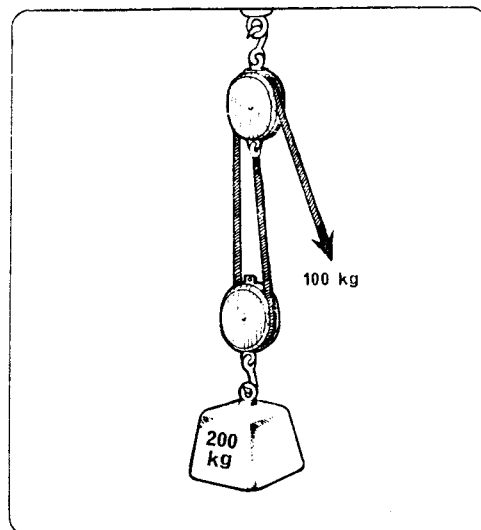

Fig 11.2 Mechanical Advantage
The amount by which the pull on the hauling part is multiplied by the tackle is called its *mechanical advantage* (MA) and, if friction is disregarded, this is equal to the number of parts of the fall at the moving block. In Fig 11.2, for example, there are two parts, so that the mechanical advantage is 2; in other words, a pull on the hauling part of 100kg would, if friction were disregarded, hold a weight of 200kg.